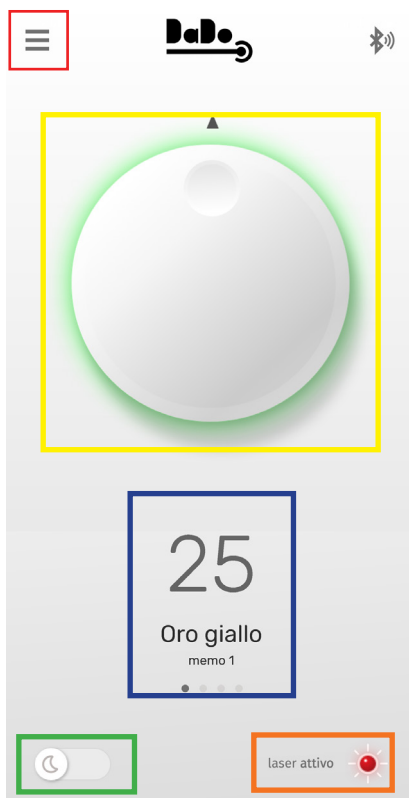
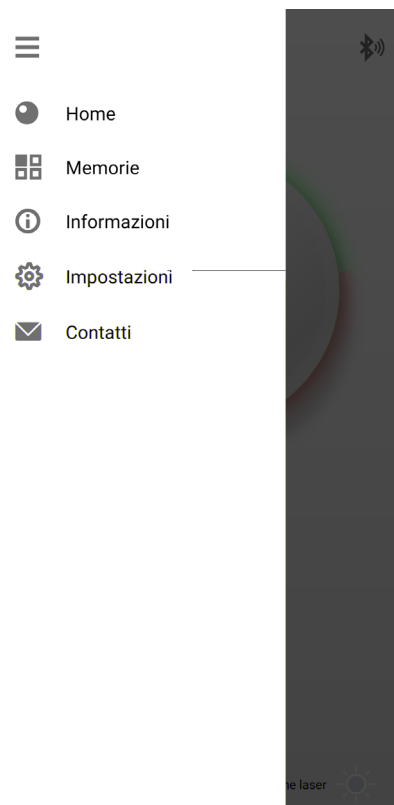

Figure 20 - Home screen controls
Figure 21 - Drop-down menu screen
- MENU ICON (top left highlighted in RED in figure 20). Press the icon for the menu shown in figure 21 to appear.
- SWITCH - button with the moon icon on top at the bottom left corner of the display (highlighted in GREEN in figure 20) that is used to go from the screen with a white background for well-lit environments to the screen with a black background for environments with poor light. Depending on what smartphone/tablet is used, this function can be used by means of the twilight sensor of the device that the application is installed on.
- LASER INDICATOR - characterised by a dot that indicates the state of the laser and is positioned at the bottom right of the display (highlighted in ORANGE in figure 20). The dot can be GREEN when the laser is not running, STEADY RED when the laser is ready for welding and FLASHING RED when the laser is used for welding.
- INTERACTIVE KNOB - at the centre of the screen (highlighted in YELLOW in figure 20) it allows the welding parameters to be selected from the 12 pre-set settings.
- MEMORY CELLS - 4 settings can be saved in addition to the 12 pre-set settings, according to your needs. A "sweep" action on the HOME screen, under the interactive knob, allows you to select the desired setting. The name of the setting and the memory position will appear (highlighted in BLUE in figure 20).